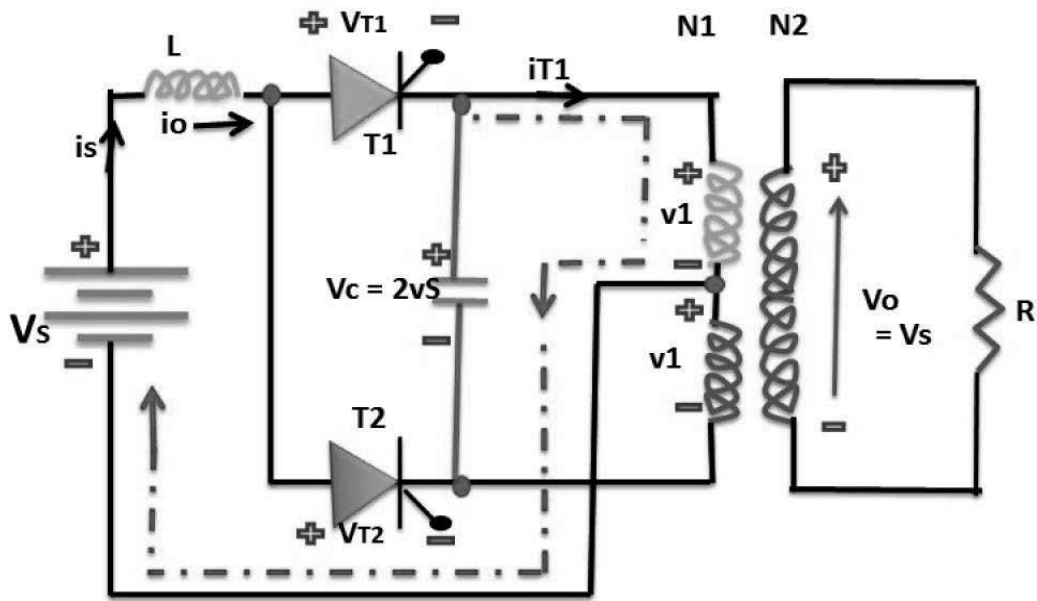

Fig.12.1 Parallel inverter
1. Make the circuit connection as per the circuit diagram shown in Fig.12.1.